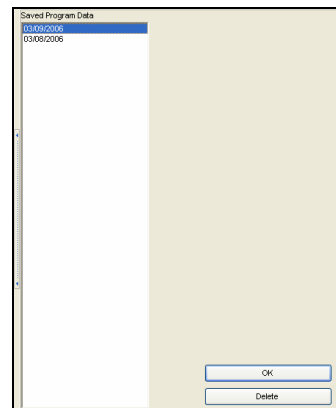

Figure 16.1.4A
3. Select the most recent date in the “**Saved Program Data**” window by clicking on it (Figure 16.1.4A).